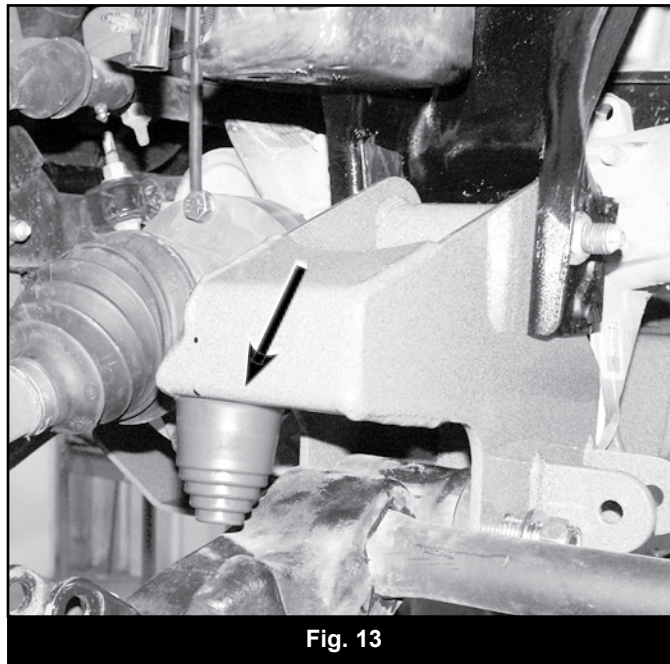

Fig. 13
36. Install the provided bump stops to the new BDS rear crossmember with 3/8" nuts, lock washers and 3/8" SAE flat washers from bolt pack #539. Tighten hardware securely (Fig 13).